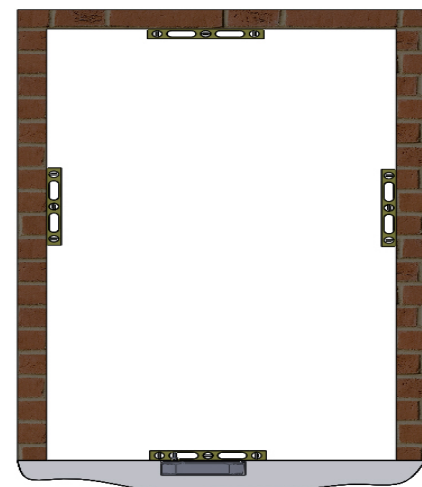

Figure 5:
3. Verify the opening is plumb and level (Figure 5).